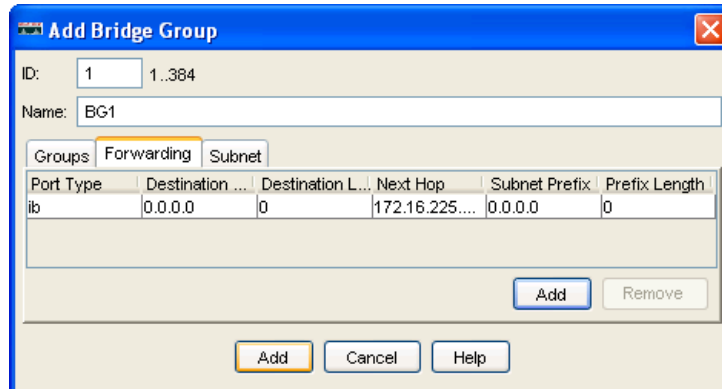
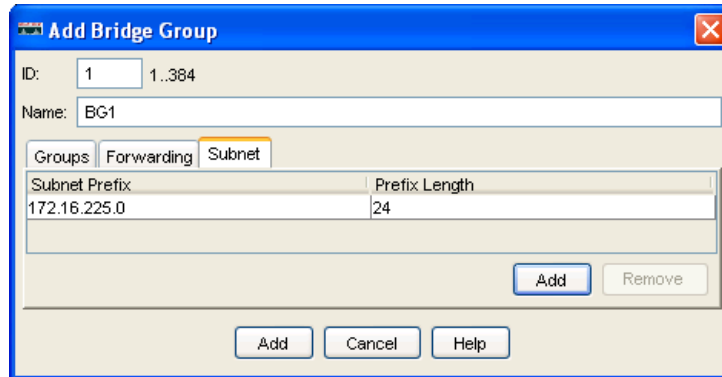

Figure 7-8 Forwarding tab on Add Bridge Group window
Figure 7-9 Subnet tab on Add Bridge Group window
- After making changes to the Add Bridge Group Groups tab, you need to configure the Forwarding tab and the Subnet Tab as shown in Figure 7-8 and Figure 7-9 on page 129
In the example in Figure 7-8, you set up a default gateway for this bridge group to use on the upstream Ethernet network.
In the example in Figure 7-9, we define the Subnet for this bridge group. Some comments on these settings: